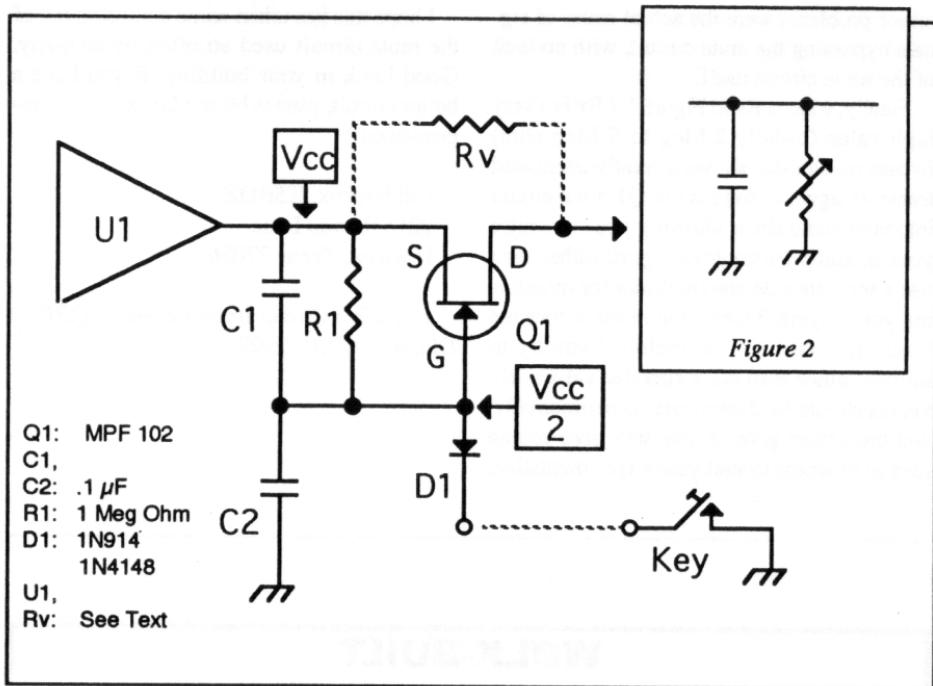

Figure 1
**Circuit Description:** The receiver mute circuit in Figure 1 is found in many kits of popular receiver and transceiver articles published over the last decade. It is comprised of C1, C2, R1, Q1, D1 (and Rv).
both AF (Audio Frequency) and DC voltage. In Figure 1, we use the DC voltage from U1, through bias voltage dropping resistor R1 (a 1 Meg ohm resistor) to bias (turn on) the gate of Q1 just enough to present an acceptable impedance (100-300 ohms) to U1 output and still pass through the received signals. This bias voltage to Q1 Gate is roughly half the Source voltage to Q1 (bias voltage = Vcc 12). When grounding the Q1 gate, such as keying the circuit to ground, you remove the Q1 gate "turn-on" voltage and Q1 opens, (turns off) thus breaking the circuit and preventing signals from passing. Diode D1 allows positive voltage to pass only one direction (to ground when the key is grounded) and prevents unknowns from entering into the circuit. C1 is basically a bypass capacitor (during transmit) that doubles as part of the timing circuit. C2 is primary in determining the on-off timing sequence of this mute circuit. The secret to making this circuit operate properly in your project is to control the on-off timing of Q1 so at "key-up" you do not get a key-click or "pop" or thump in your speaker or phones.
**TIMING CIRCUIT:** In Figure 1, C2 is the primary timing capacitor that must be recharged. At key up, the grounding path through D1 is opened (removed) allowing the voltage to return to the gate of Q1, unless the voltage has a lower resistance path to go elsewhere. C2 (now empty from being grounded) is our alternate, lower resistance route for that short time it takes to charge. For the very short time it takes to refill C2, the bias voltage remains removed from Q1, keeping Q1 turned off (open). After C2 is charged, bias voltage to the gate of Q1 turns it on and the received signals are again allowed to pass.
Finally, what is Rv in Figure 1? Rv is a very high value (usually 2 Meg to 5 Meg ohm) bypass resistor that allows a greatly attenuated transmit signal to bypass the Q1 mute circuit into your audio chain, allowing you to monitor your *actually transmitted signal* rather than use a separate sidetone oscillator for monitoring your keying. This circuit resistor does not meet all needs, so it is included strictly to inform rather than offer specific values. Rv values should be determined experimentally, and the values given above will give you an idea as to where to start your experimentation.